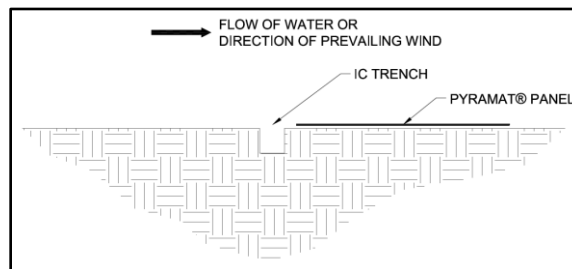
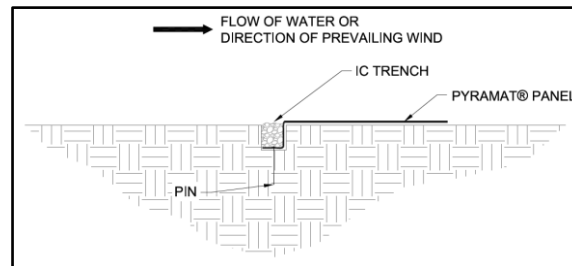
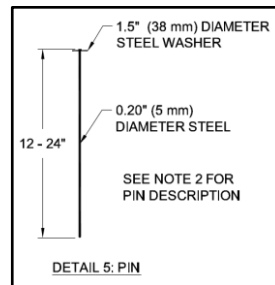

Figure 4: Initial Channel (IC) Trench Alignment
Figure 5: Initial Channel (IC) Trench Placement
Figure 6: Securing Pin
2. Lay the PYRAMAT panel on the downstream side of the IC trench (Figure 4). Place the panel edge in the IC trench, ensuring full coverage along the bottom of the entire IC trench with the PYRAMAT (Figure 5).
3. Secure PYRAMAT with pins in the IC trench (Figure 5). Pins should be made of steel with a 0.20 in (5 mm) minimum diameter, having a 1.5 in (38mm) diameter washer at the head, and a length between 12 and 24 in (300-600 mm) with sufficient ground penetration to resist pullout (Figure 6). Longer pins may be required for looser soils. Heavier metal stakes may be required in rocky soils. Suggested placement of pins for the IC trench is along the bottom of the trench with pins on 12 in (300 mm).
4. Backfill and compact the IC trench (Figure 5).